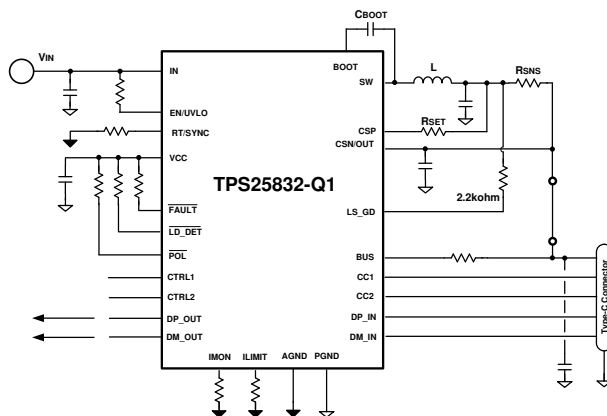
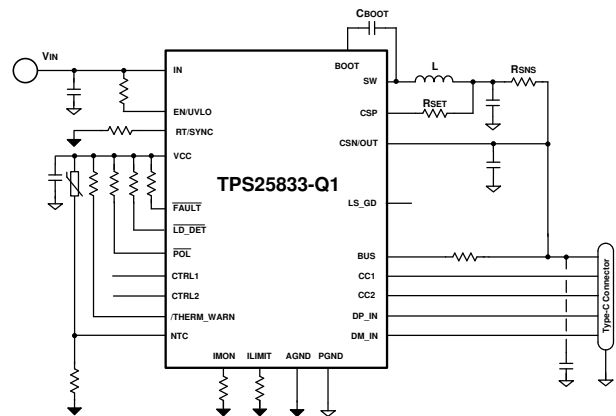

Figure 55. TPS25832-Q1 Buck Average Current Limit
Figure 56. TPS25833-Q1 Buck Average Current Limit
- Buck Average Current Limit Figure 55, Figure 56: